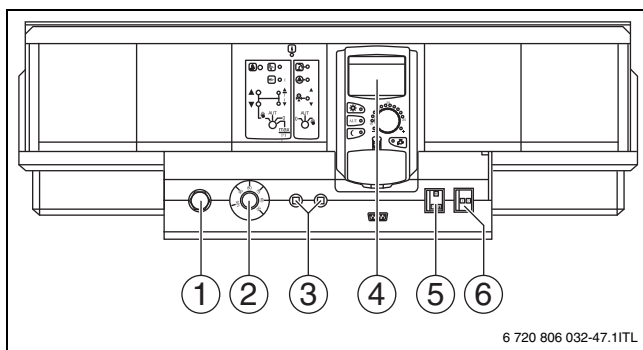

Fig. 3 Control unit, example CFB 930 control
Start your boiler at the control unit (in this example, Fig. 3: CFB 930 control). The adjustments made in the control unit will affect the burner as well. The burner can then be started by the control unit.
Shut your boiler down via the control unit (e. g. CFB 930 control, → Fig. 3, page 6). This also switches the burner off automatically.
- ▶ Set the ON/OFF switch (→ Fig. 3, [2]) to "0" (OFF).